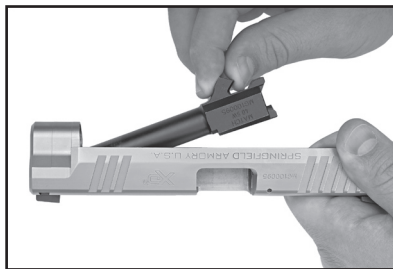

Figure 25-2
9. Remove the barrel from the slide (See Figure 25-2.)